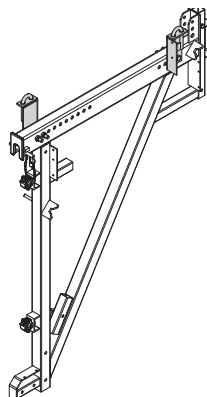

Fig. 7
1. Release Nuts (5) M20 (SW 30).
2. Attach two Hex. Bolts (4) M20 (SW 30) through the angle plate (3) and CB 160 Climbing Bracket (7) on the left and right sides. (Fig. 7)
3. Tightly screw on nuts (5).